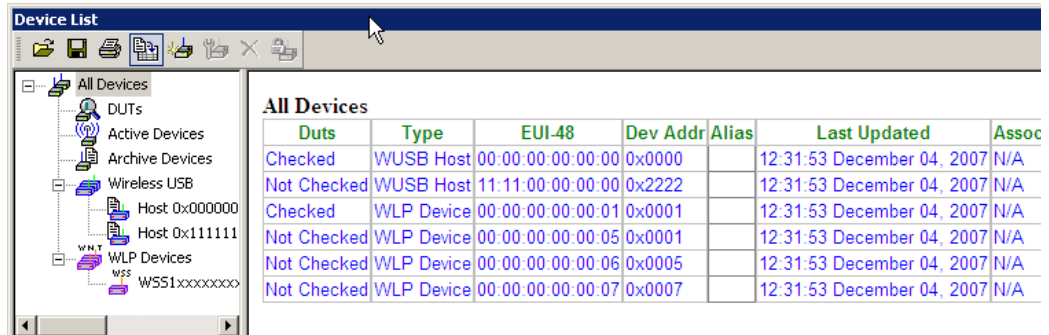

Figure 11.5 Device List Dialog Box
Step 1 If the device already appears in the Device List (see Figure 11.5), double-click it to open the Edit Device dialog box.